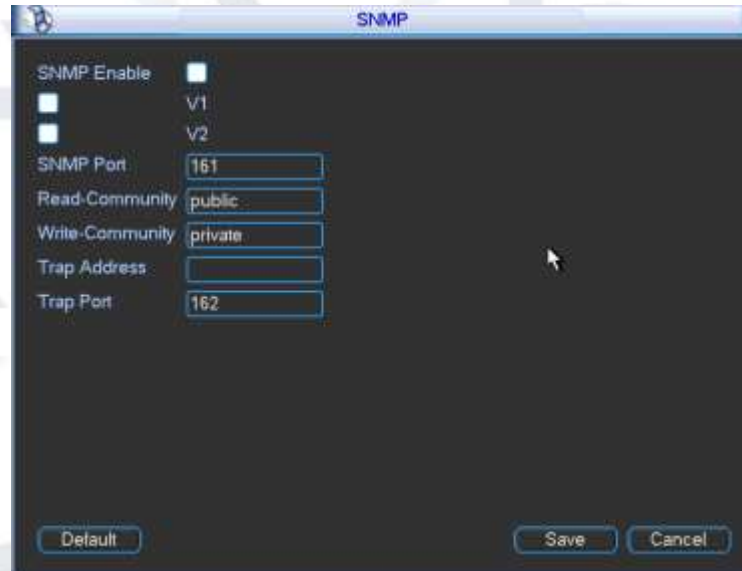

Figure 5-45
You can set in the following interface. See Figure 5-45.
- In Figure 5-45, check the box to enable the SNMP function. Input the IP address of the PC than is running the software in the Trap address. You can use the default setup for the rest items.